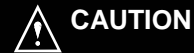

Fig. 5
1. Remove the carburetor tubes (Fig. 5) from the mix inlet holes and lay in the bottom of the mix pans.